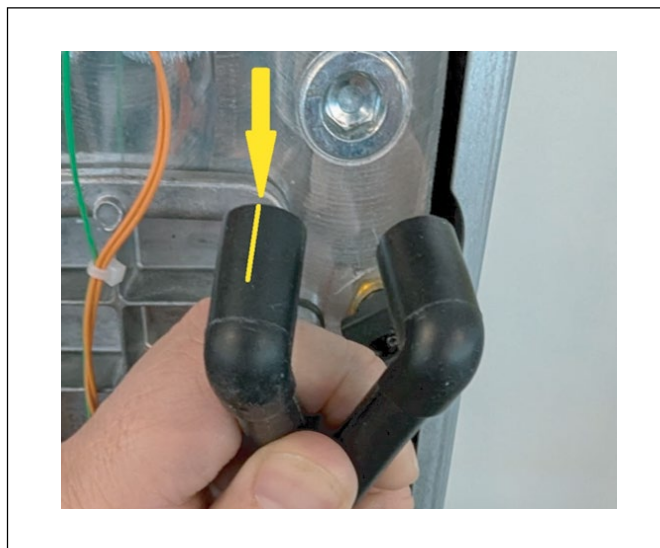

Figure 2 Existing Insulation Shroud Modification
3. Cut a single slit in the existing insulation shroud (See Fig 2 – yellow). This will allow the existing shroud to slip over the spring on the new electrode spring, and in turn allow the internal electrical connections to firmly engage.